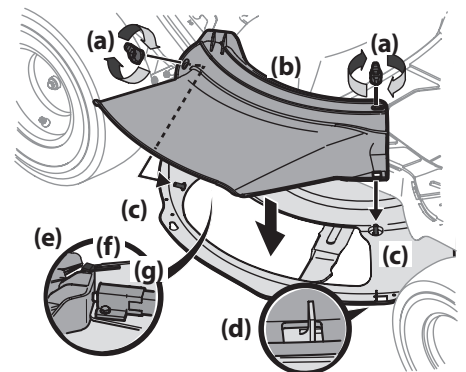

Figure 2-8
1. Remove the wing knobs (a) installed on the mowing deck and retain for later installation. See Figure 2-8.
2. Install the deck chute (b) into the deck discharge opening on the deck. The rear of the chute should be under the tab (f) on the rear deck bracket (g). The studs (c) on the deck surface will fit through the holes on the upper portion of the deck chute. The small tab (d) on the deck lip area will fit through the square cutout on the lower portion of the deck chute. See Figure 2-8.
3. Secure the deck chute (b) by tightening the wing knobs (a) removed in step 1. See Figure 2-8.